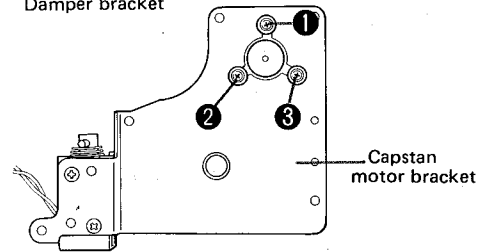

Fig. 17
3. Remove the screws ① to ③ in Fig. 17 and then replace the capstan motor.